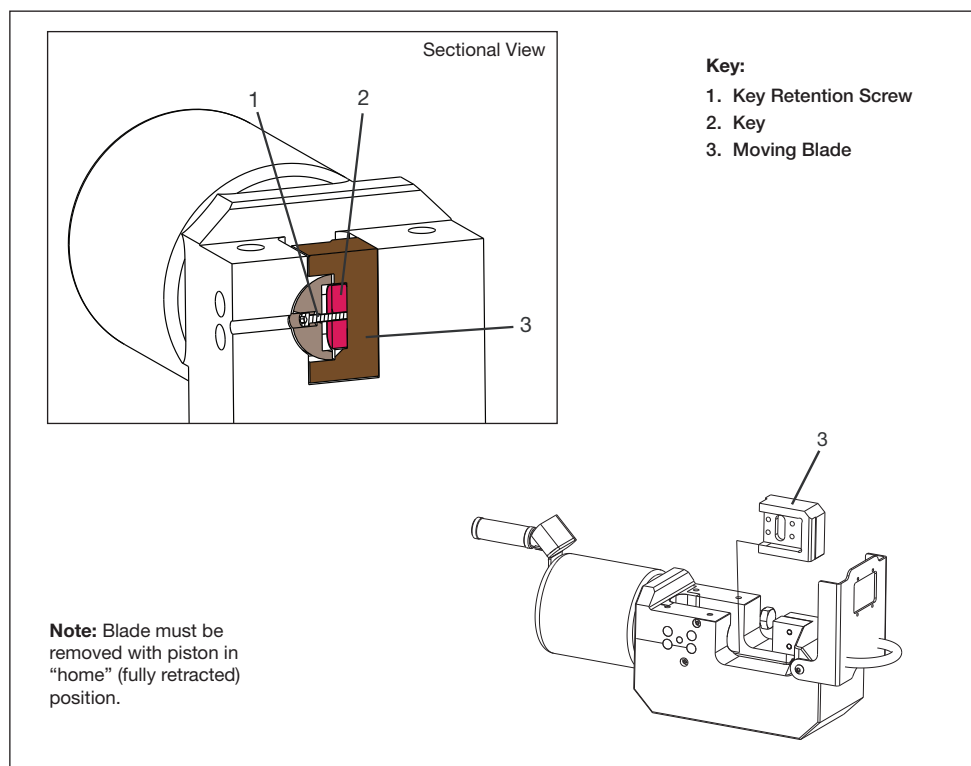

Figure 17, Moving Blade Replacement (View 2 of 2)
7. Loosen the key retention screw (Fig. 17, item 1). Continue loosening until the screw becomes completely unthreaded from the tapped hole in the key (Fig. 17, item 2).
8. Using a screwdriver, push gently on the end of the retention screw (Fig. 17, item 1) so that the key (Fig. 17, item 2) moves fully into the channel on the side of the moving blade (Fig. 17, item 3).
9. Slide-out and remove the worn moving blade and key (Fig. 17, items 2 and 3).
10. Remove the key retention screw (Fig. 17, item 1).
11. Install the new key (Fig. 17, item 2) in the keyway of the new moving blade (Fig. 17, item 3).
12. Insert the new moving blade (Fig. 17, item 3) into the blade slot of the cutter.
13. Slide the new key retention screw (Fig. 17, item 1) through the hole in the side of the cutting head.
14. Engage the threads of the key retention screw (Fig. 17, item 1) with the threads in the key (Fig. 17, item 2).
15. Tighten the key retention screw (Fig. 17, item 1) to pull the key (Fig. 17, item 2) into the keyway of the cylinder piston. Torque to 91 in-lb [10.3 Nm].